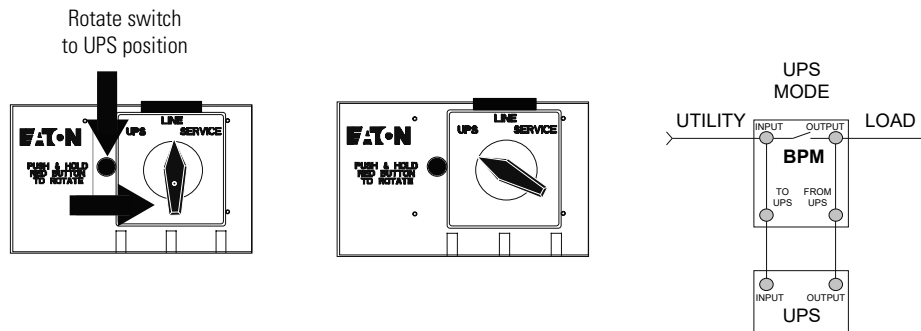

Figure 30. From LINE to UPS
2. To transition the UPS from LINE to UPS, press and hold the red button and turn the switch to UPS (see Figure 30).